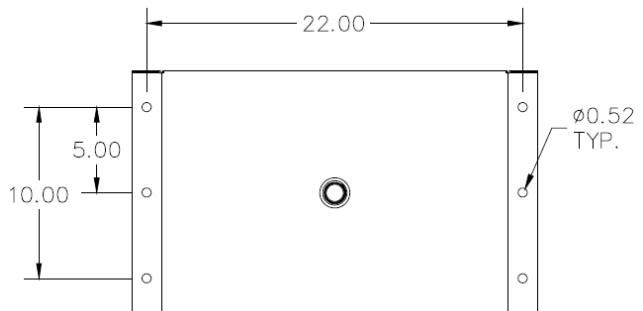

FIG. 2
3. Mark location of the mounting holes on the surface where the OM600 is to be mounted. Note hole pattern on bottom of cabinet (**FIG. 2**). Drill holes for a minimum of 3/8" mounting hardware.
3. Firmly secure unit to 4 piece. Note hole pattern on bottom of legs (**FIG. 2**). Make sure unit is level